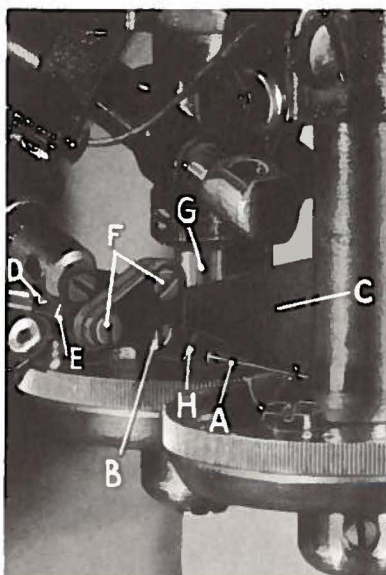

Fig. 6
With the short groove UP, put in a new needle (A, Fig. 6) Type 155 F, size as specified, in needle holder to maximum depth. Tighten screw (B).
Two measurements must be made simultaneously to assure proper needle position: The distance between the left side of the rear feed cup shaft and the right side of the needle holder is .008 inch (measured by gauge No. 21227 CB (C, Fig. 6); the distance from the underside of the needle blade to the top of the cup rims, which have been previously
If needle stroke needs changing, loosen screw (D, Fig. 6) in needle bar collar, move needle bar extension and needle holder as one unit either forward or backward to meet the above condition, and retighten screw.